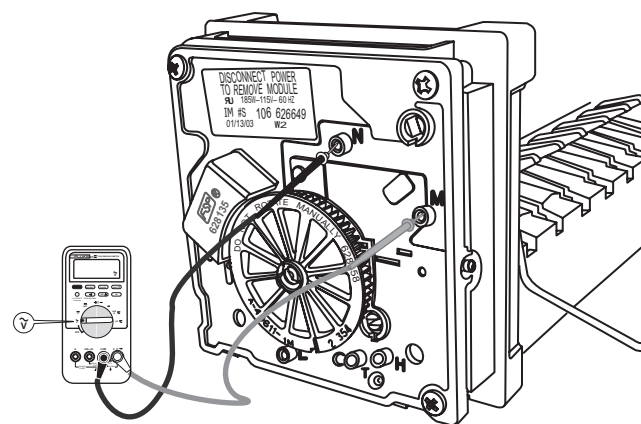

Figure 63. Checking voltage to motor
3. Set multimeter to AC scale, then connect probes to test point N and M. See Figure 63. Test probe tips must be 1/2 inch long to make full contact with internal terminals. Voltage at the motor should measure 108 to 132 volts.